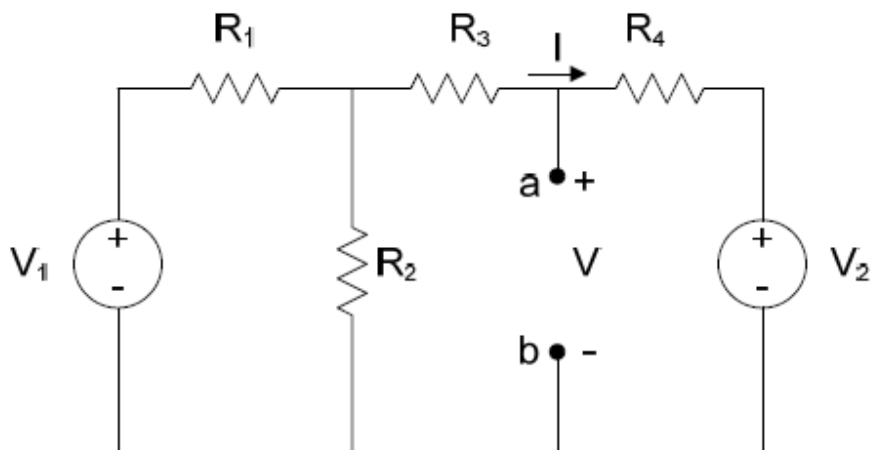

Fig. 2. The experimental arrangement with a Thevenin source.
3. Construct the circuit of Figure 2 by connecting a second source across the terminals a-b of the previous circuit. Use $R_4=5.1$ k Ω . Use the two outputs of the power supply for each of the sources.